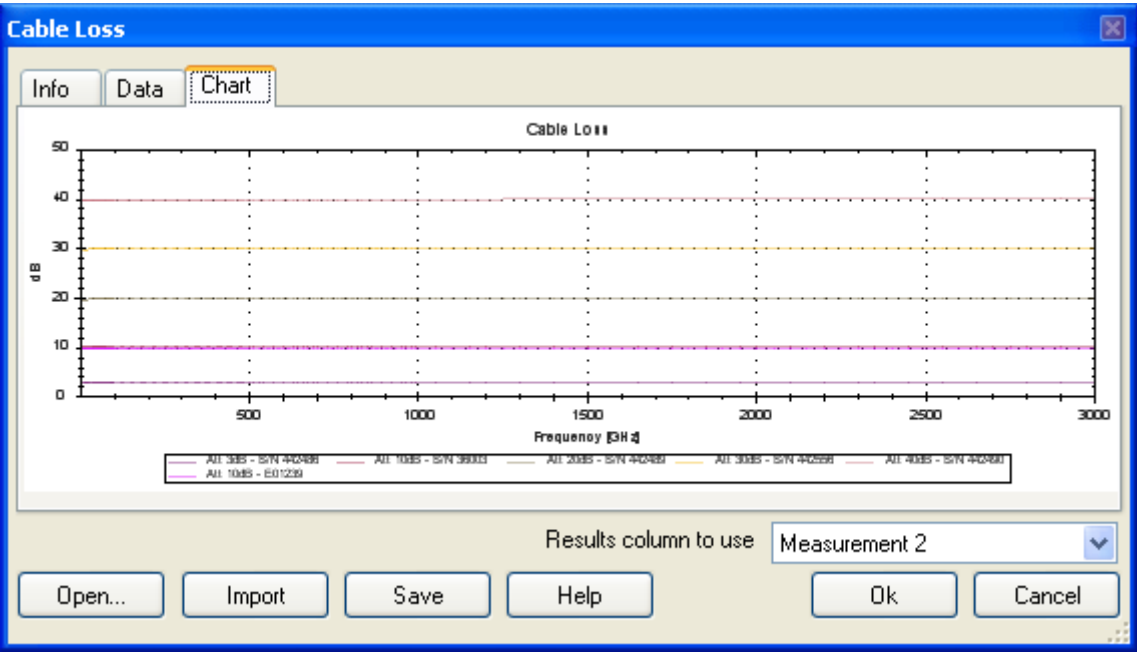

Figure 25: Factor file dialog – Chart tab
3. Chart page – here the factor data chart is drawn (see **Figure 25**)